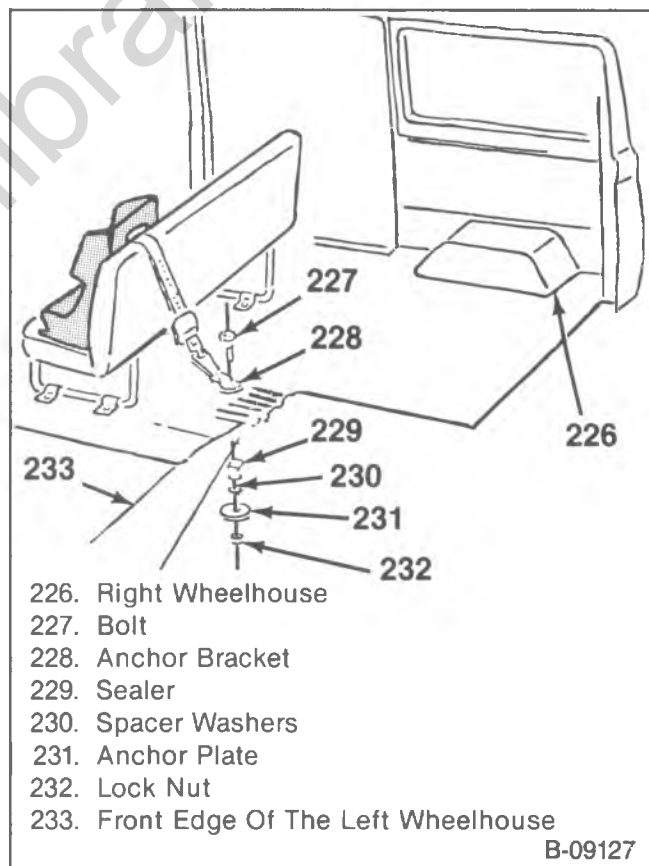

Figure 43—Second Seat Top Strap Components—
1. Determine the location for the anchor by measuring 76 mm (3-inches) rearward from the front edge of the left wheelhouse. Measure 60 mm ($2\frac{3}{8}$ -inches) inboard from the left wheelhouse. Mark the position on top of the rib where these measurements meet (figure 43).